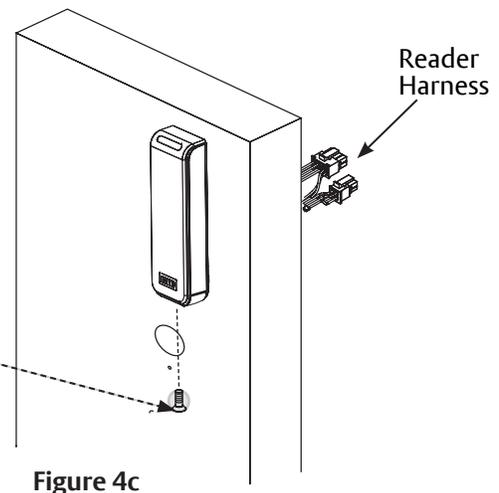

Figure 4c
3. Secure the reader to the mounting plate using the supplied 0.138-32 x 0.375" screw (Figure 4c).